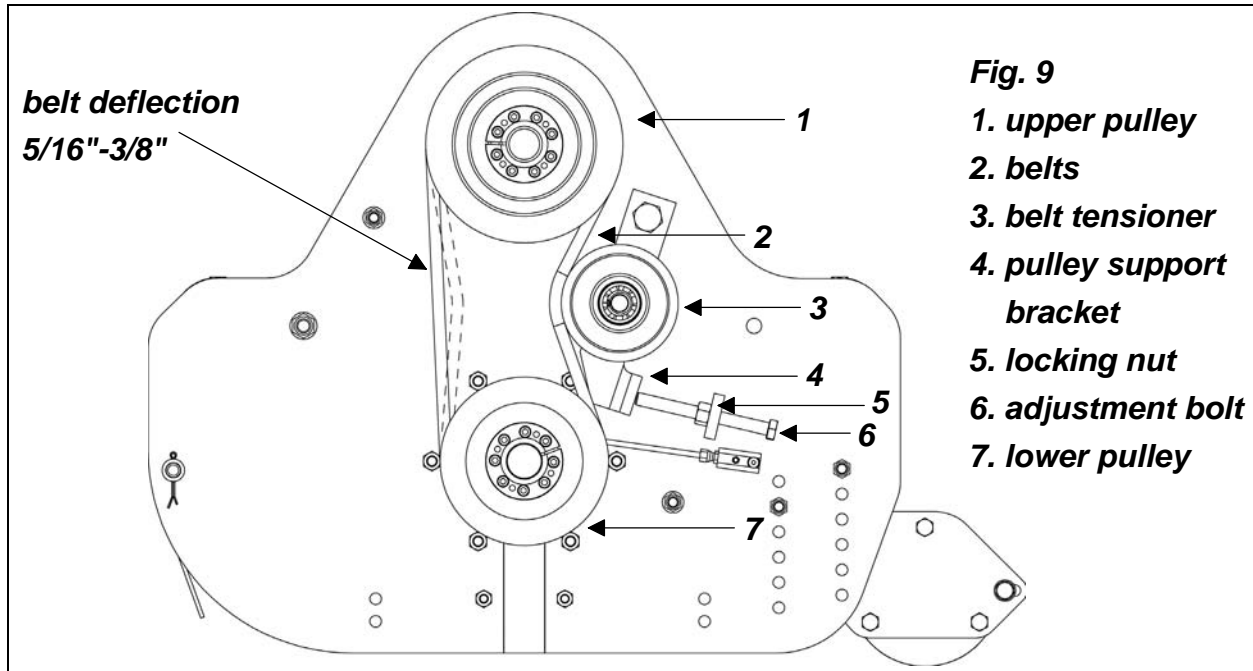

Fig. 9
Check the tension of the four belts (**see fig. 9**) by applying a force of 12-15 lb. pushing against each belt halfway between the pulleys. The belt deflection should be between $\frac{5}{16}$ "- $\frac{3}{8}$ ".
The **Destroyer D90** flail shredder is equipped with a lateral belt transmission with a manually loaded belt tensioner. The tension is applied by a tensioner pulley and is regulated with an adjustment bolt (**see #6, fig. 9**) which protrudes from the belt shield.
To adjust the tension do the following (**see fig. 9**):
2. Loosen the locking nut and unscrew the adjustment bolt (**see fig. 9**).
5. Ensure that the belts are at the proper tension (**see fig. 9**).
1. Disengage the belt tensioner pulley by releasing the adjustment bolt (see #6, fig. 9)¹⁴.
2. Disengage the belt tensioner pulley by releasing the adjustment bolt (see #6, fig. 9)¹⁶.